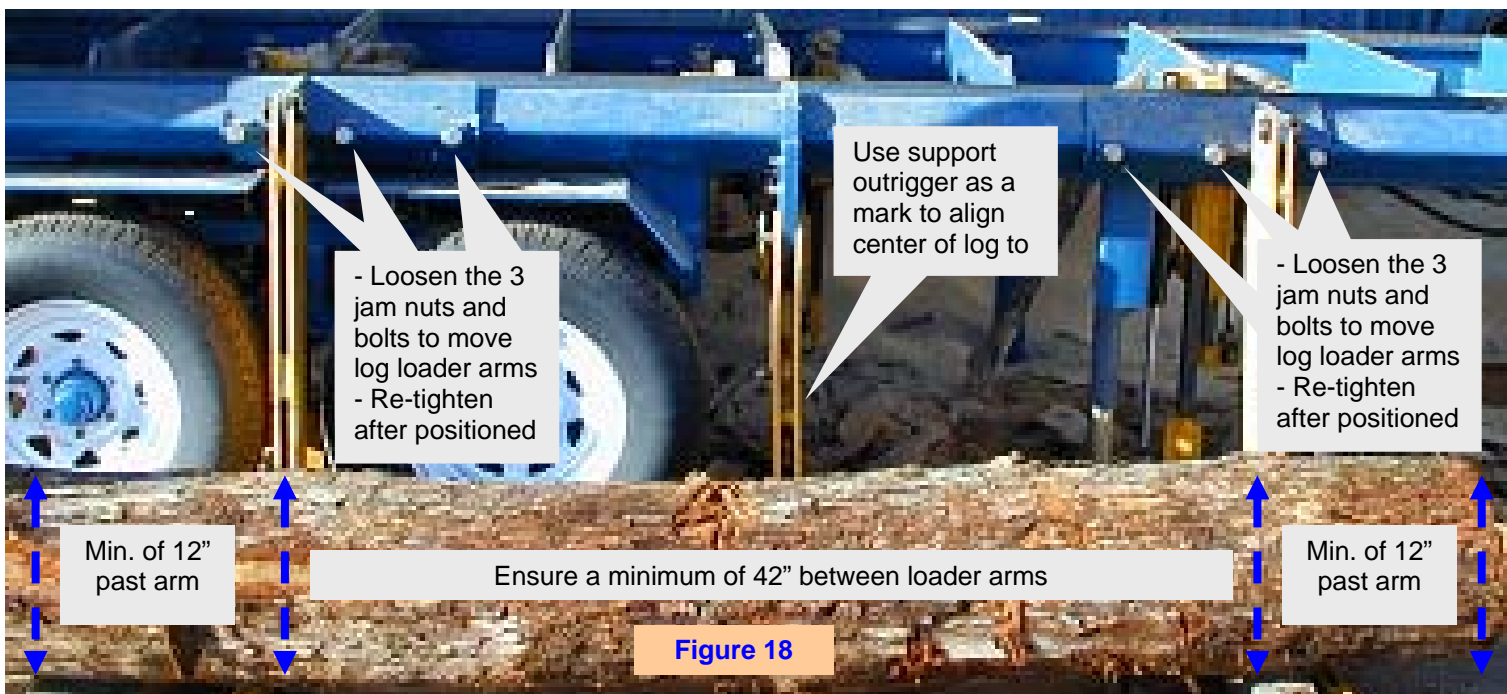

Figure 18
- ☐ Position the arms so that the logs will be evenly distributed across each arm (see **Figure 18** below).